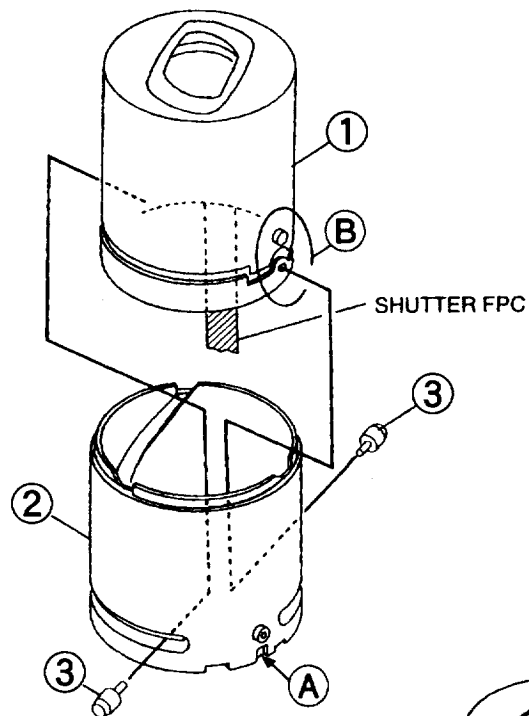

Fig23
(11) Set the ZOOM RING UNIT (①) into the ZOOM CAM (②) then set two GUIDE PIN (③) as shown in Fig. 23.
[NOTE] The (A) part and the (B) part must be matched, when inserting. (Fig. 23)